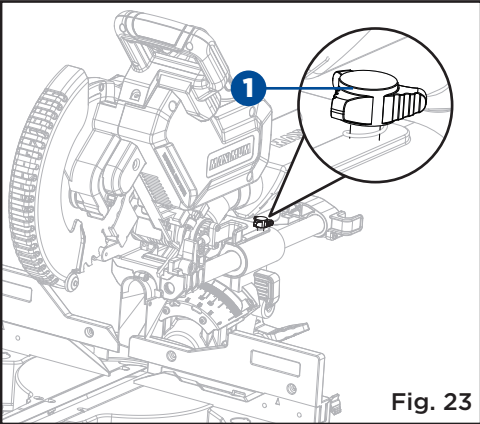

Fig. 23
**SLIDING THE CUTTING HEAD (Fig. 23)**
- For chop cutting operations on small workpieces, slide the saw head assembly completely toward the rear of the unit and tighten the slide lock knob (1).
- To cut wide boards, the slide lock knob (1) must be loosened to allow the saw head to slide freely.